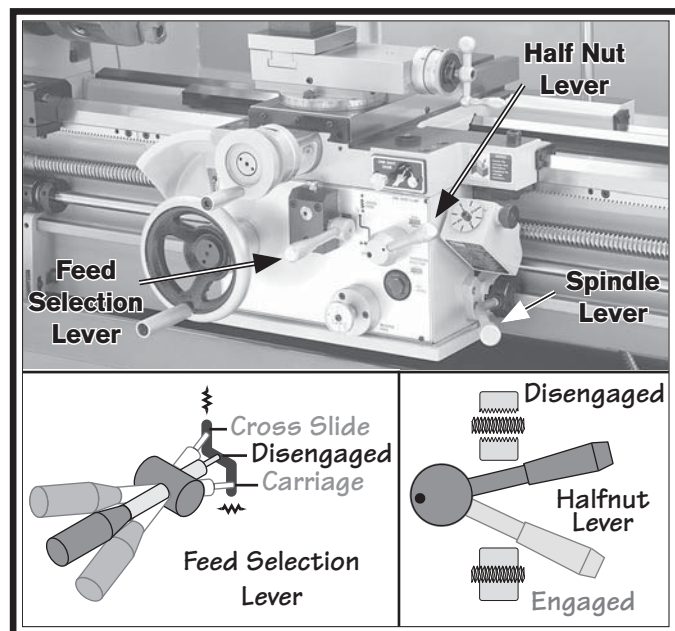

Figure 25. Disengaging carriage components.
- 11.** To ensure carriage components do not unexpectedly move during the following steps, disengage the half nut lever and feed selection lever (see **Figure 25**).
- 12.** Start the lathe by pulling the spindle lever out (see **Figure 25**) and moving it down.